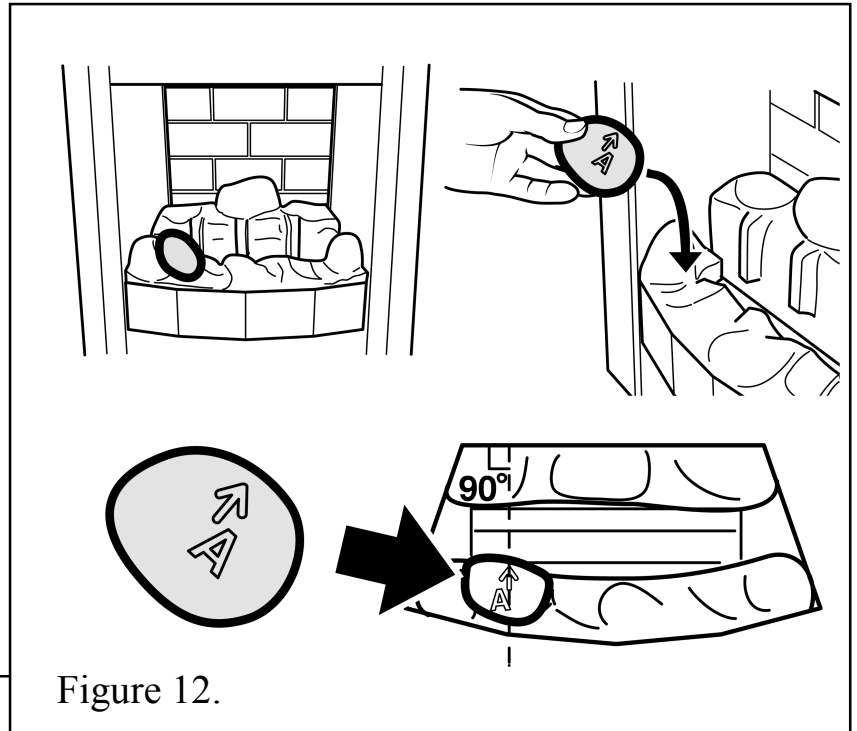

Figure 12.
The pebbles should be positioned so that the arrows always point towards the back of the fireplace opening. When located into position the stem of each arrow should be at 90° to the rear of the fireplace opening (See figure 12).
3. Hold pebble 'A' upright with the arrow pointing to the top. Place pebble "A" on top of the front base pebble. The pebble should rest against the moulded pebble to its left. (See figure 12).